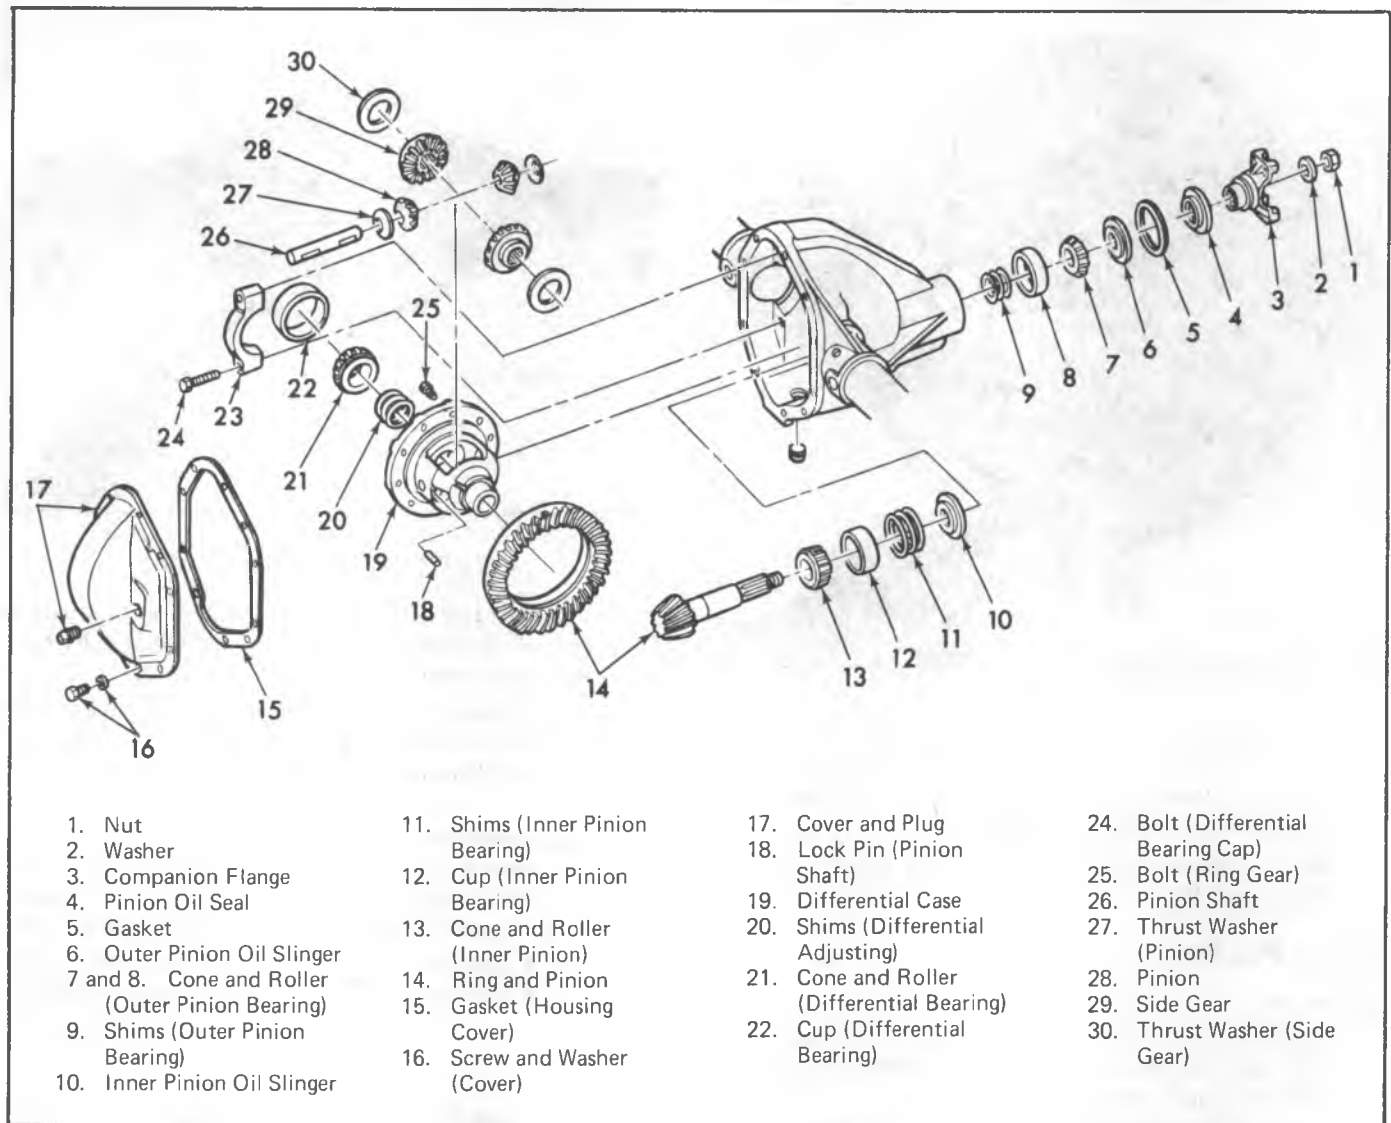

Fig. 1D--Dana Rear Axle Assembly
1. The differential side bearing shims are located between the side bearing cone and roller assembly and the differential case (fig. 1D). These bearings are of the tapered